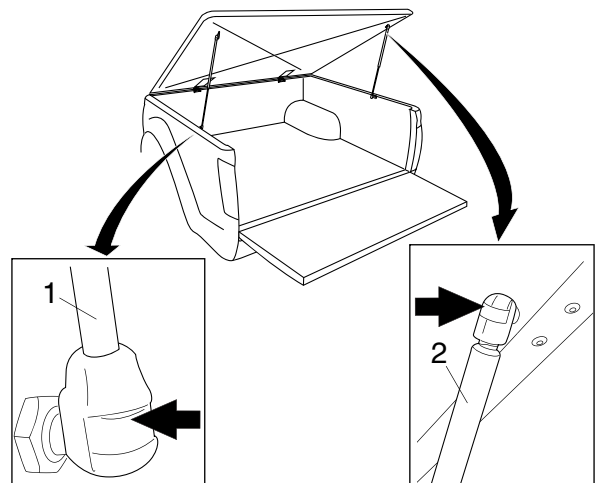

FIGURE 6
**FIG. 6** Trail fit the corner piece (9) to the bulb seal (3) and mark its position. Clean the marked area and apply primer to the area. Remove tape liner from corner piece moulding and fit into header rail seal and apply firm pressure down onto side rail as shown. Repeat process for the other side of the vehicle.
2. Attach gas struts (2) by clipping into place. Ensure narrow end (1) mounts to the vehicle. Refer to figure 6.